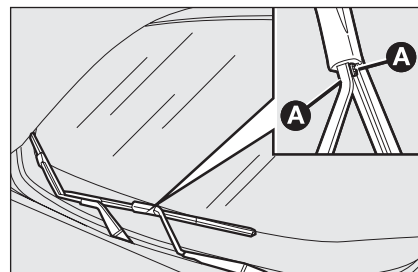

fig. 10
- ☐ exert pressure on the straps **A**-fig. 10 and remove the blade arm;